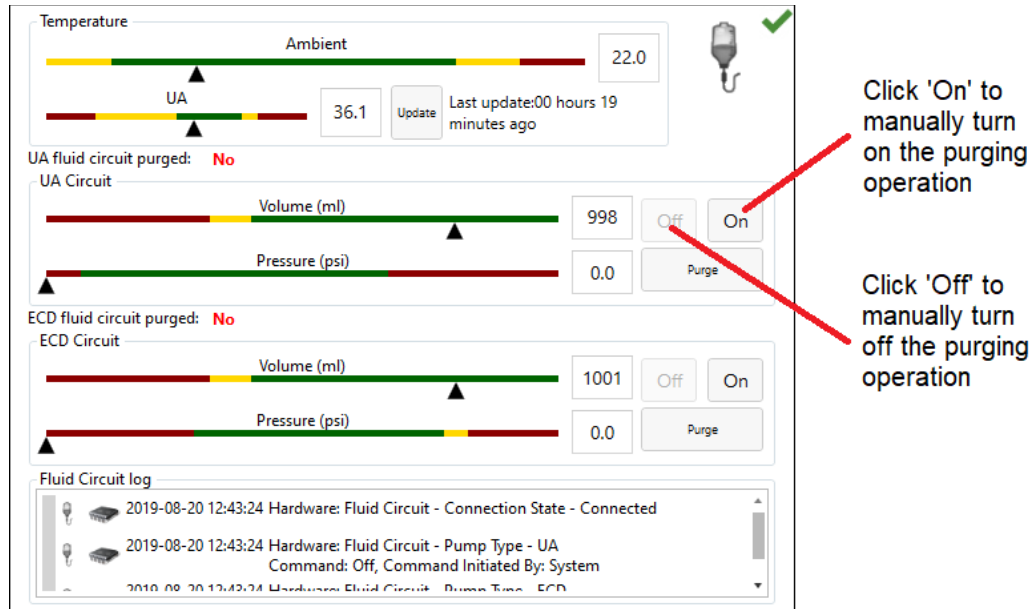

Figure 9: Manual pump purging
- a. If the purging cycle ends before completing the steps in this process, return to the PSIB display (or TDC window) and manually turn flow on by clicking **On**. The fluid pumps will remain on until you click **Off** (Figure 9).